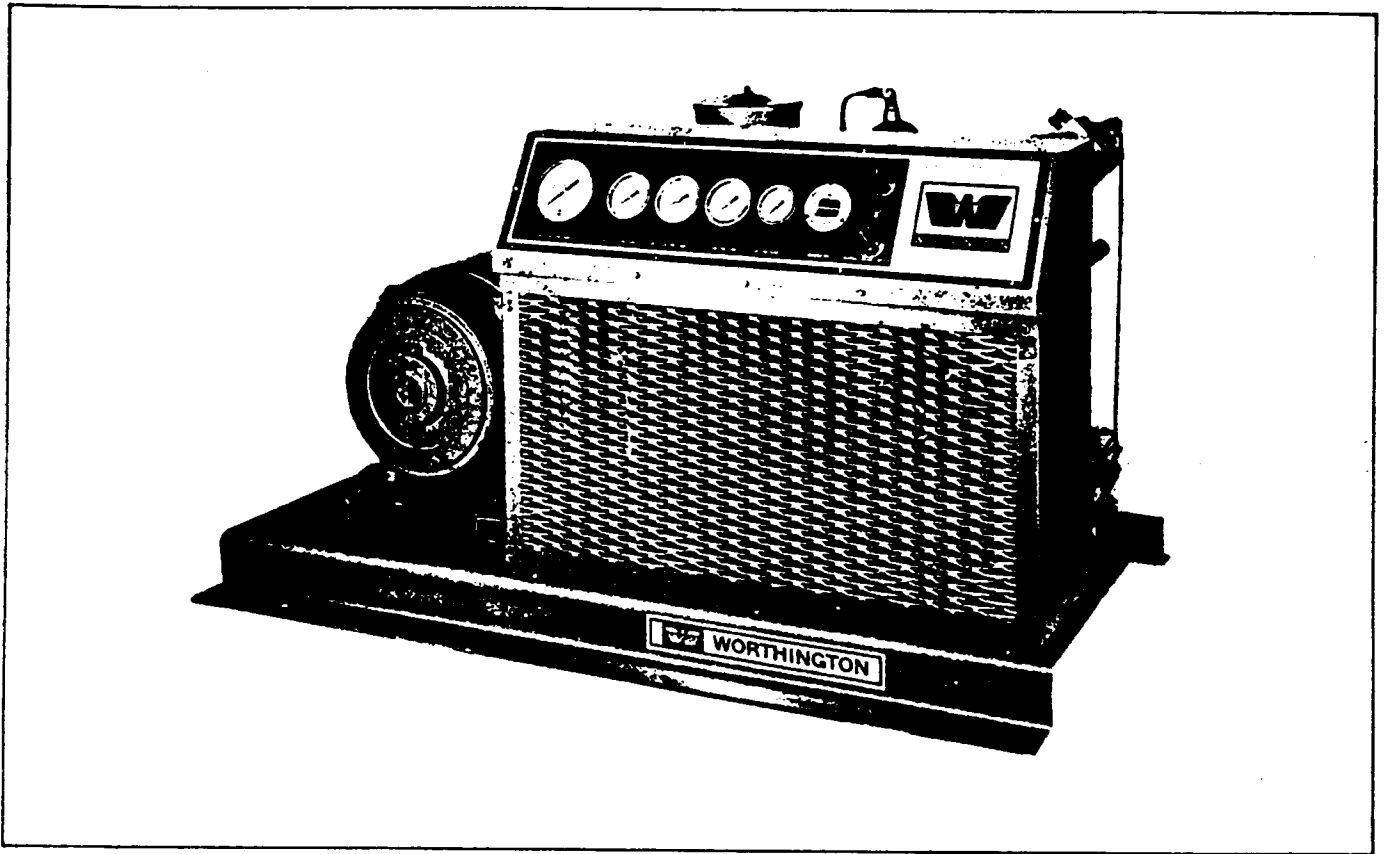
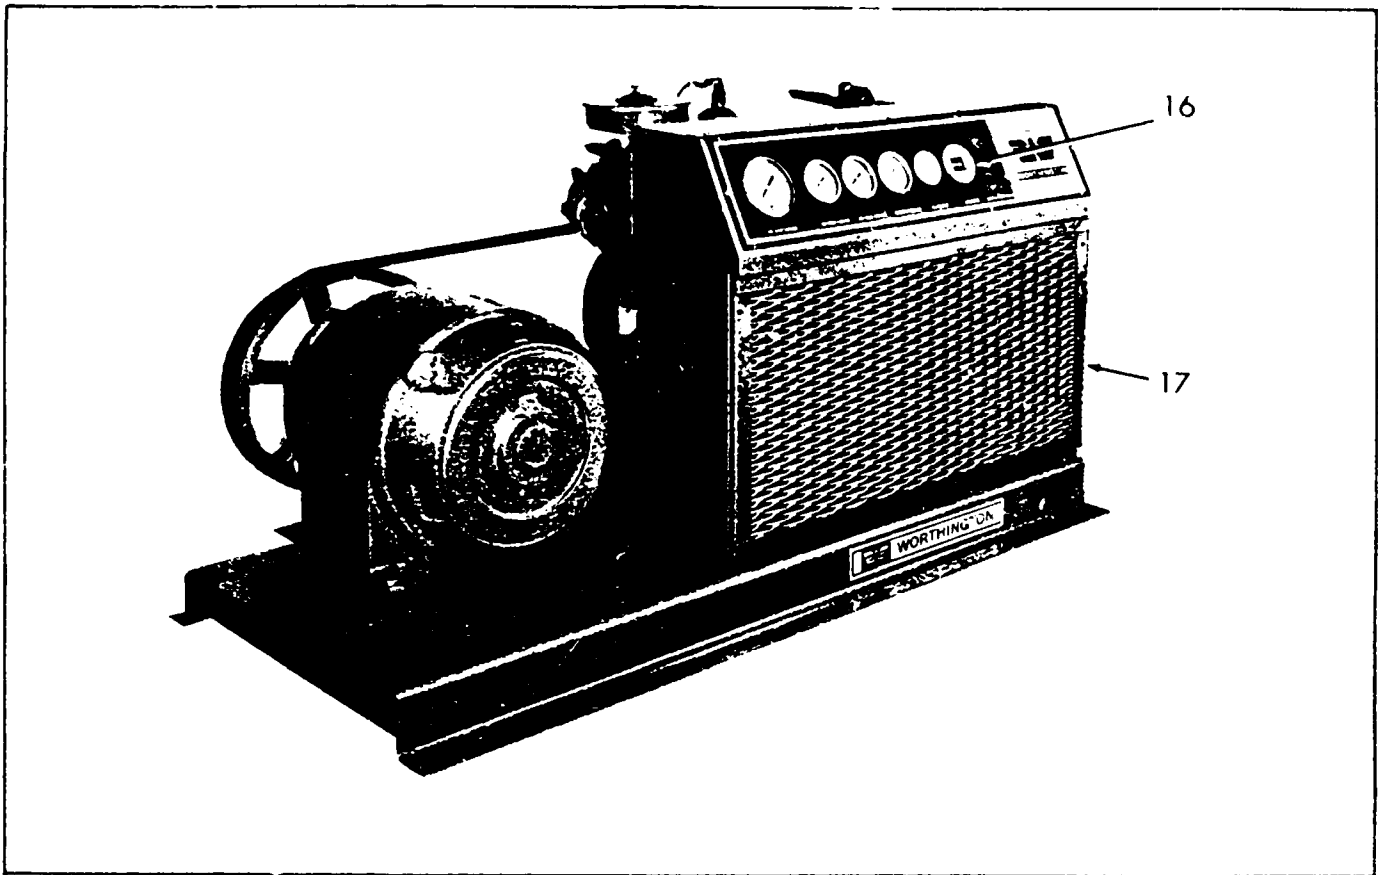
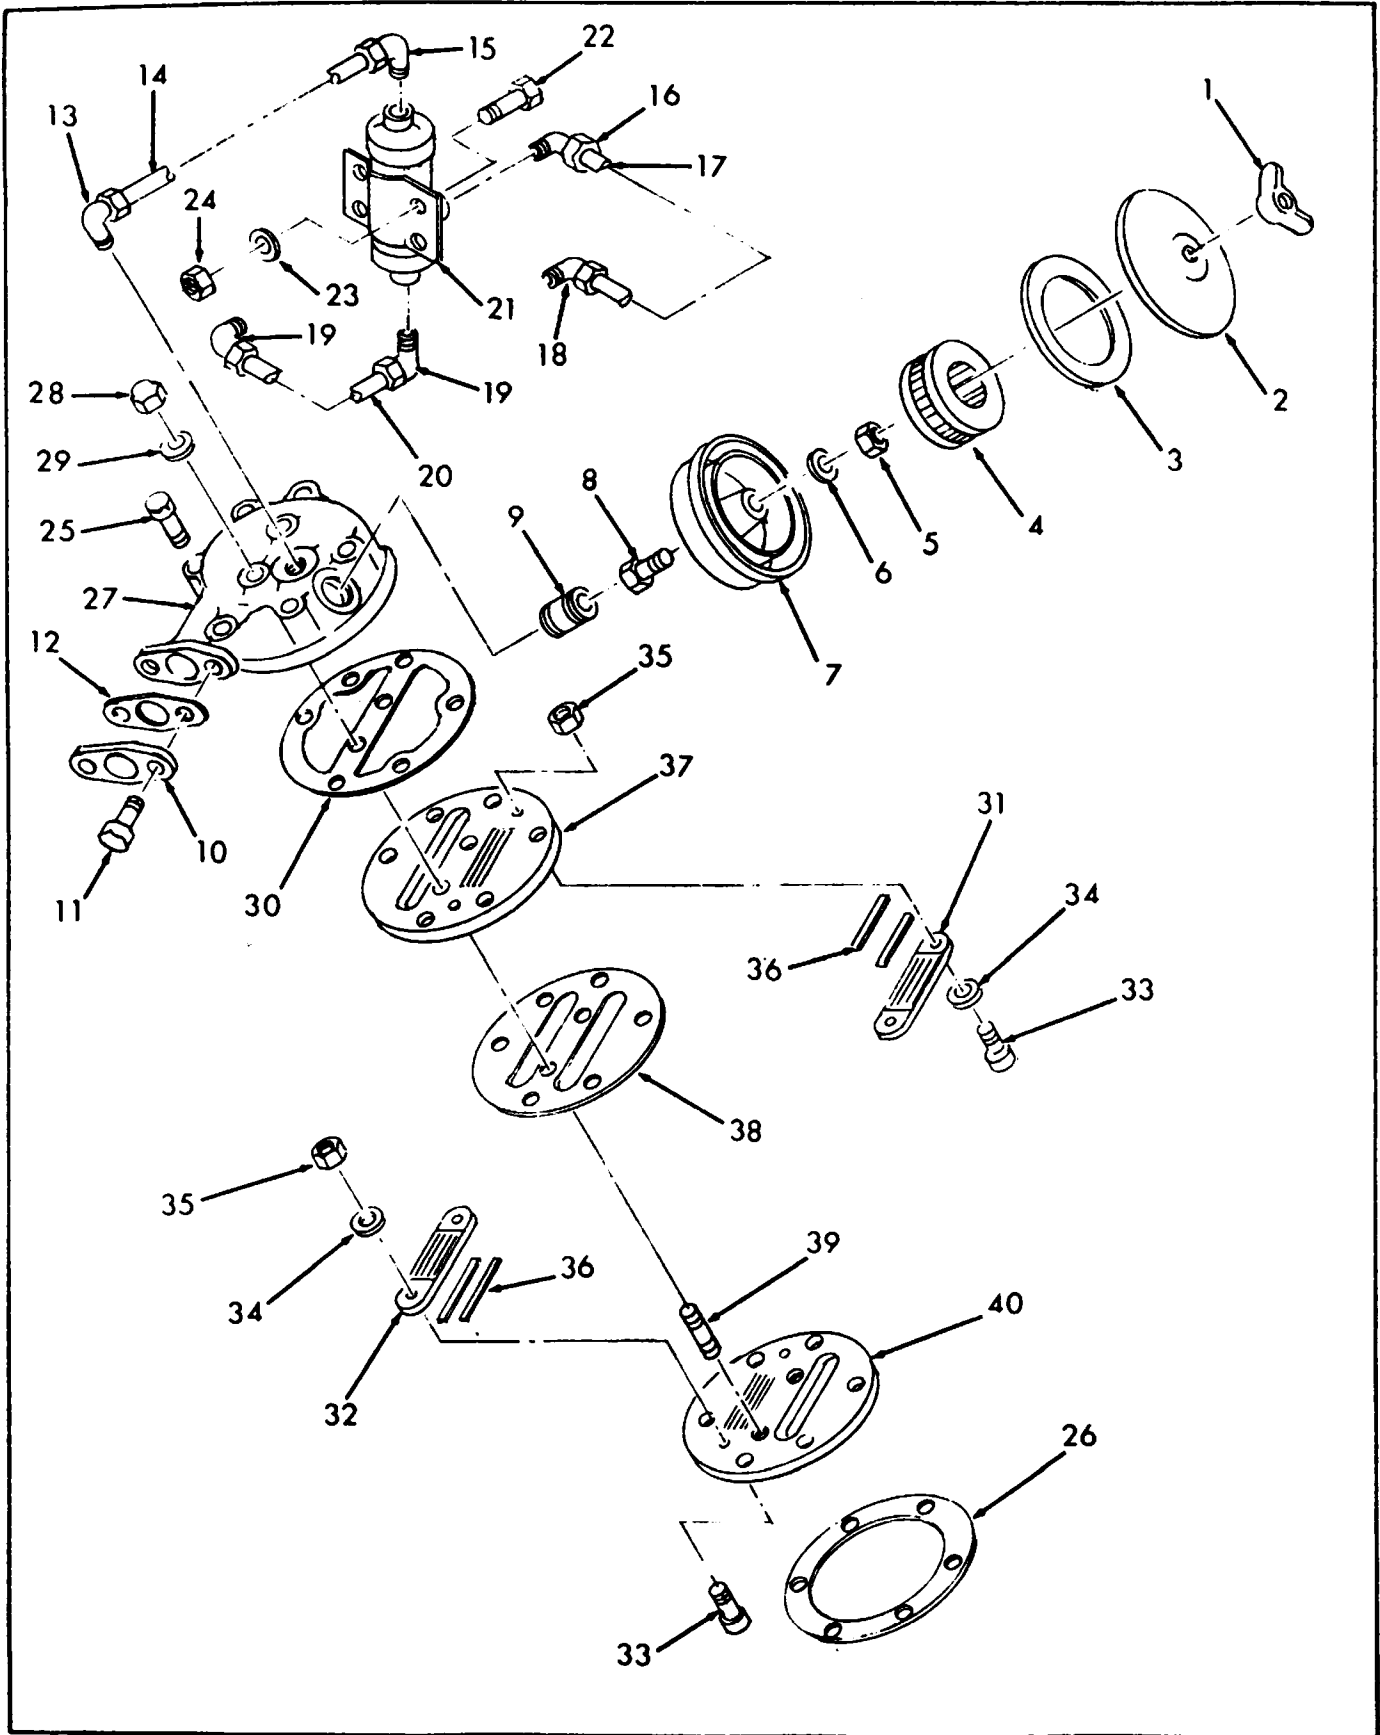

Figure 1. Worthington Compressor, Type-H
Figure 2. Worthington Type H Compressor, Left Front
Figure 6. First-Stage Cylinder-Head Group
Legend to Figure 2.
The Type-H compressor is a V-styled, double-acting, motor driven unit with air-cooled intercoolers and after-coolers. A typical unit is shown in figure 1. Except for model SBBS, all models have an automatic condensate drain system. Figures 2, 3, 4 and 5 identify groups contained in standard units. Parts listed are common to all models unless noted otherwise in the code column.
Figures 2, 3, 4 and 5 identify groups and assemblies. Figure 6 and following figures show the parts contained in groups and assemblies, and key the part to the list. Usually the part from one side is shown when the part on the opposite side is the same or similar. Bolts, screws, washers and pins are shown larger than their proper proportion and part detail simplified for easier identification.
1. Find the group where the part is located in figure 2, 3, 4 or 5.
2. Refer to the page number referenced in the legend of figure 2, 3, 4 and 5.